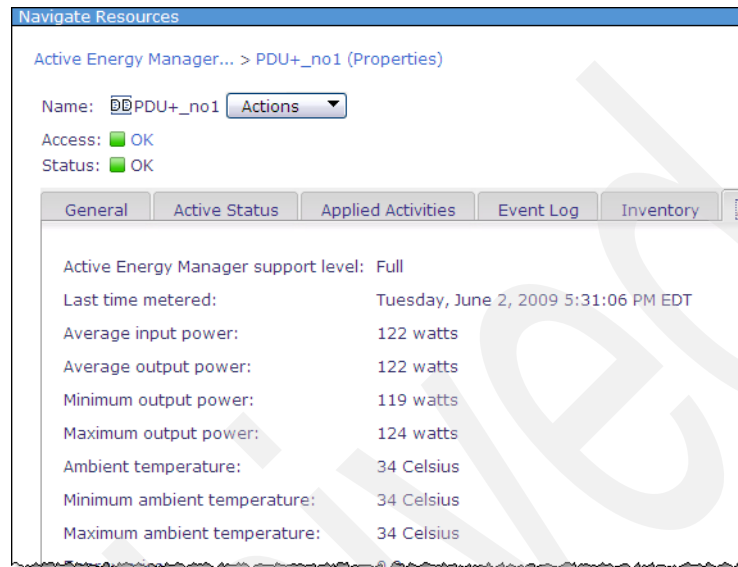

Figure 8-18 PDU+ Active Energy tab after updating firmware
4. After updating the firmware, Active Energy Manager support level should be listed as Full. Also various power information is displayed, as shown in Figure 8-18.